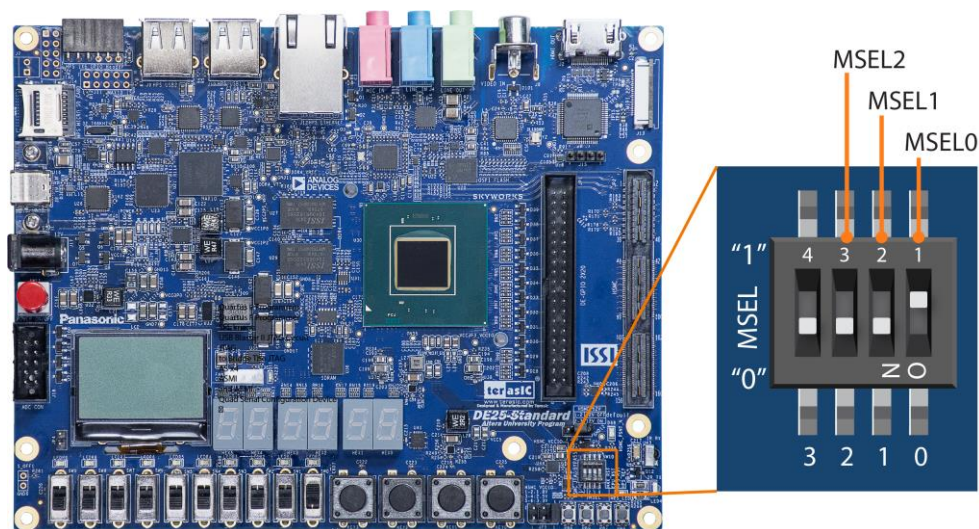

Figure 3-1 DIP switch (SW10) setting of Active Serial (AS) mode on DE25-Standard board
When the DE25-Standard board is powered on, the FPGA can be configured from QSPI FLASH or HPS. The MSEL[2:0] pins are used to select the configuration scheme. It is implemented as a 4-pin DIP switch SW10 on the DE25-Standard board, as shown in **Figure 3-1**.
Figure 3-1 shows MSEL[2:0] setting of Active Serial (AS) Fast mode, which is also the default setting on DE25-Standard. When the board is powered on, the FPGA is configured from QSPI Flash which is pre-programmed with the default code.